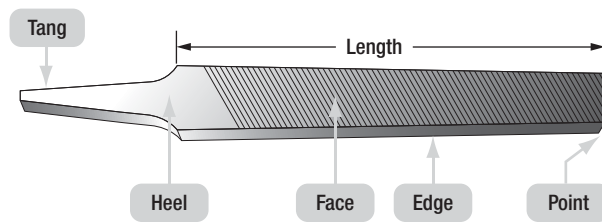

Figure 3-24. Hand file.
Files have three distinguishing features: (1) their length, measured exclusive of the tang (*Figure 3-24*); (2) their kind or name, which has reference to the relative coarseness of the teeth; and (3) their cut.